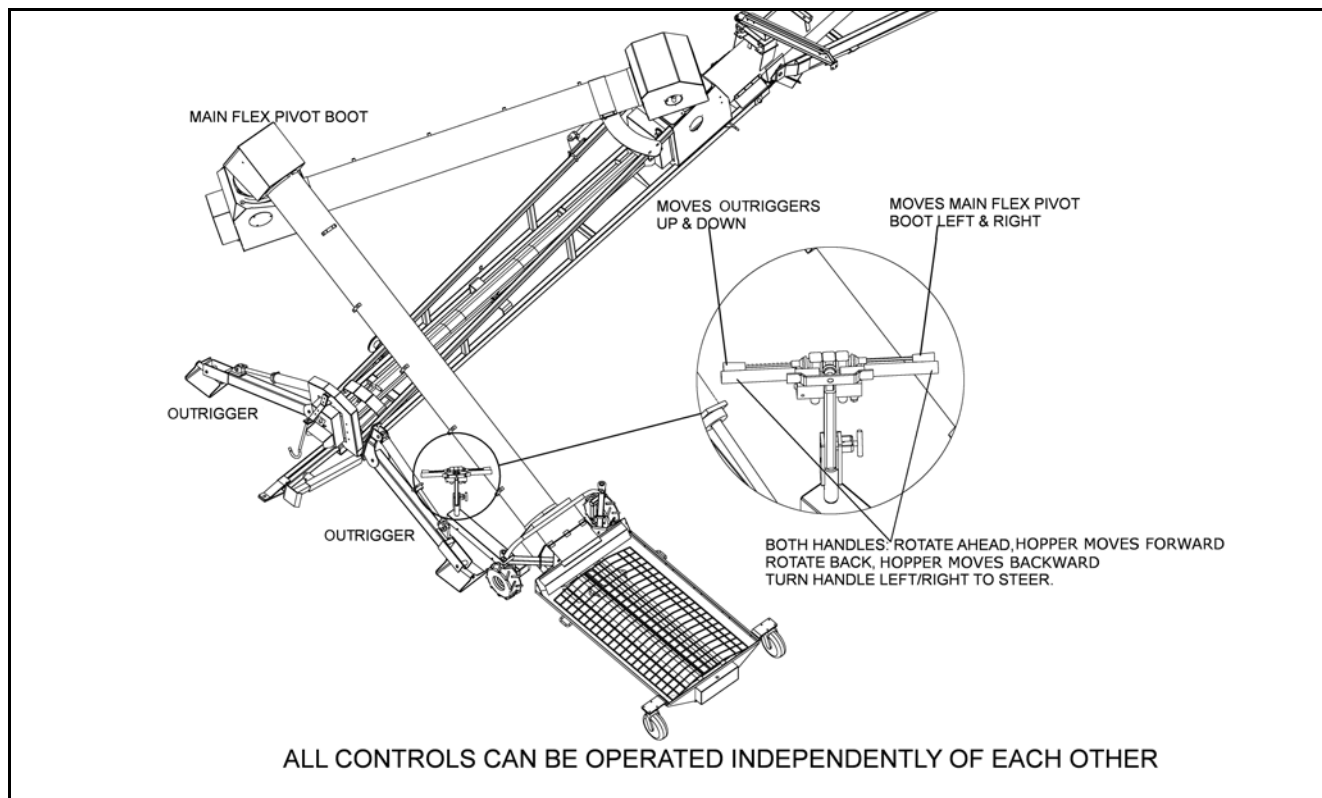
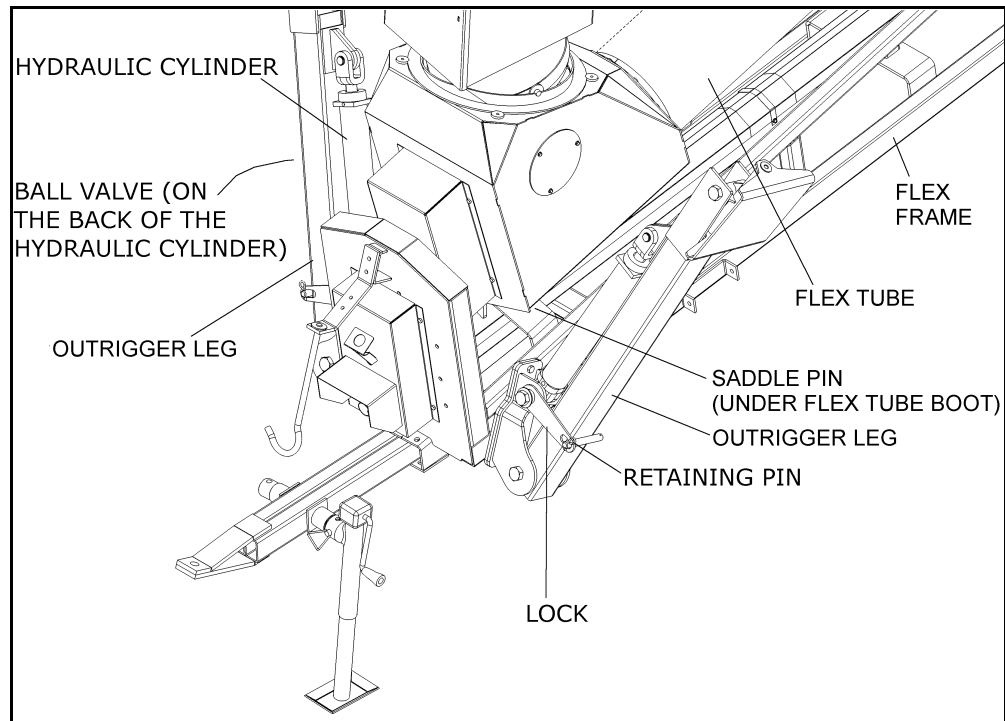

Figure 5.1
Figure 5.2
3. Using the hydraulic controls, position the intake hopper as shown in Figure 5.1.
3. Place the upper flex tube in transport position, lock in place with saddle pin on flex frame (see Figure 5.1).
6. Raise outriggers by first opening the ball valve located on outrigger leg and then engaging flex auger hydraulics (see Figure 5.1). Put locks in place and insert retaining pins (Figure 5.2).